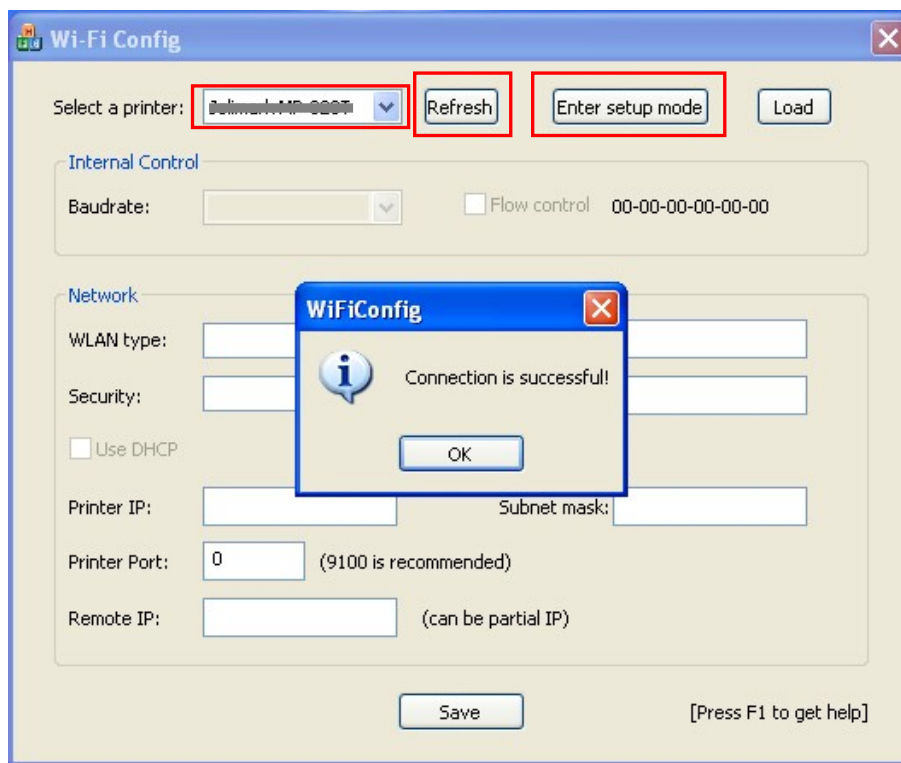

Figure 2
- Click “Enter setup mode”, then a figure of software as figure 2 pops up. The printer and computer is connected successfully when the dialogue box “Connection is successful” appears. Click “OK”.